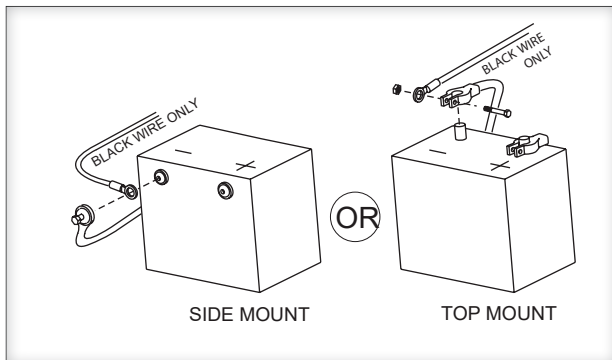

Figure 15-2
2. Begin routing the wiring harness at the vehicle battery. Attach the black wire to the negative terminal on the battery. Do NOT attach the red wire until the very end of installation. [Figure 15-2]